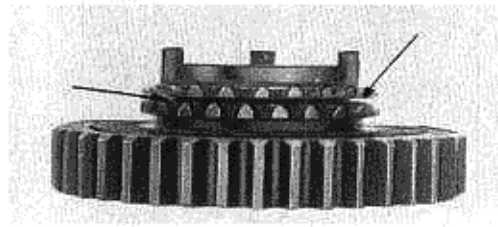

Fig. 6-12 Checking Blocking Ring Wear
- d. Measure the clearance between the ring and the gear face as shown in Fig. 6-12.